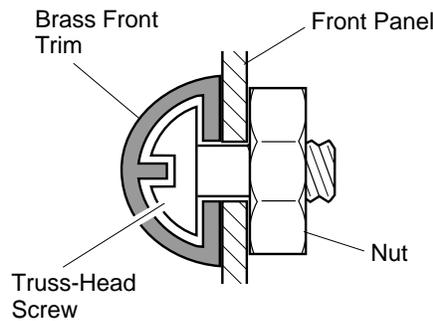

Figure 4 - Attaching Brass Front Trim to Front Panel
2. Slide the head of two truss-head screws from hardware packet into each end of brass front trim (see Figure 4).
3. Align shim under adjusting plate as shown in Figure 4.